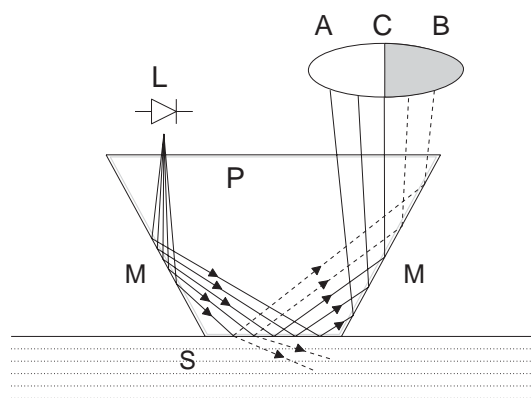

Figure 1.2 Refractometer principle
The refractometer sensor determines the refractive index n_D of the process solution. It measures the critical angle of refraction using a yellow LED light source with the same wavelength (580 nm) as the sodium D line (hence n_D). Light from the light source (L) in Figure 1.2 is directed to the interface between the prism (P) and the process medium (S). Two of the prism surfaces (M) act as mirrors bending the light rays so that they meet the interface at different angles.